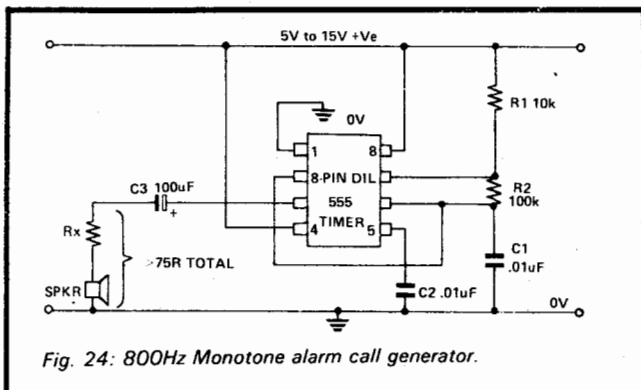

Fig. 24: 800Hz Monotone alarm call generator.
Fig 24 shows the connections for making an 800Hz monotone alarm-call generator. The circuit can be used with any supply in the range 5 to 15 volts, and with any speaker impedance. Note, however, that R_x must be wired in series with speakers having impedance less than 75 Ω , and must be chosen to give a total series impedance of at least 75 Ω , to keep the peak speaker currents within the 200mA driving constraints of the 555. The available alarm output power of the circuit depends on the speaker impedance and supply voltage
Fig. 24 a, b, c, d: Monotone alarm activated by dark (2), light (b), under-temperature (c), or over-temperature (d).